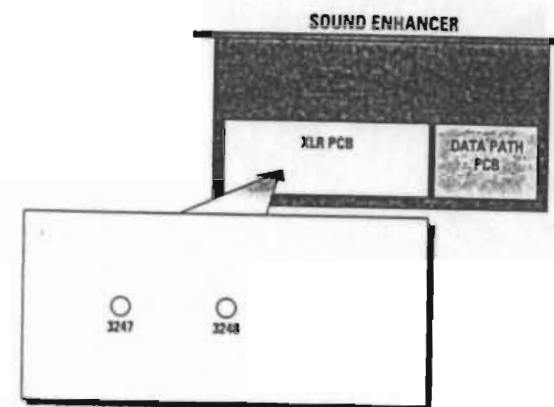

Figure 4.10: Location of trimpots.
4. Locate the XLR PCB (see figure 4.10)
5. Locate the two trim pots 3247 and 3248 (see figure 4.10).